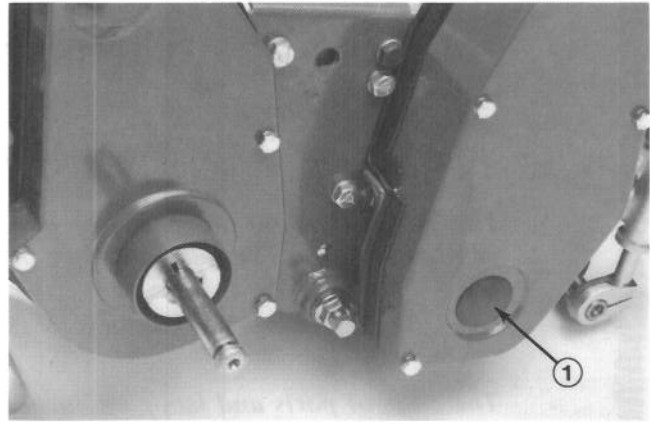

Figure 47
1. Remove plug in right reel drive cover (Fig. 47)